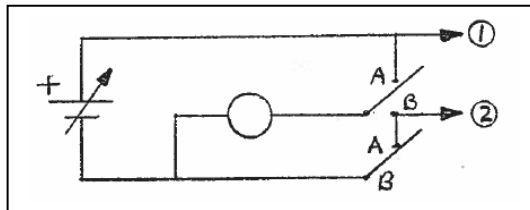

Figure 4
- 6.1.1** The test set-up shown in figure 4 can be used for adjustment of all three slopes. During these adjustments the circuit board has to be disconnected. Note that the PLUS-SIDE of the variable power supply is connected to the "1" of the terminal.